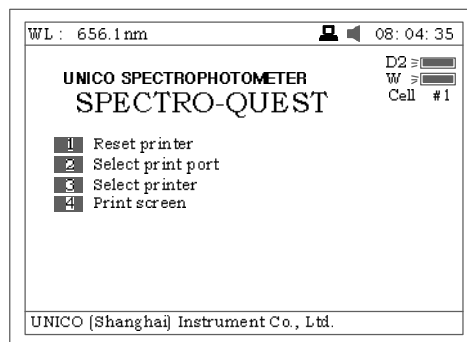

Fig78
4. Press **[4]** in **Fig 75** to select print mode. If you select “Print screen” mode, a little icon will be displayed on the top line of the screen (Fig 78), if you select “Print report” mode, the little icon will disappear.